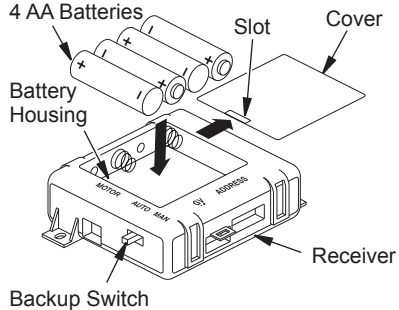

Figure 29 - Installing Batteries in Receiver
- Locate slot on battery cover of receiver (see Figure 29). Firmly insert tool such as a small screwdriver, butter knife or dime into the slot and lift up to remove cover.